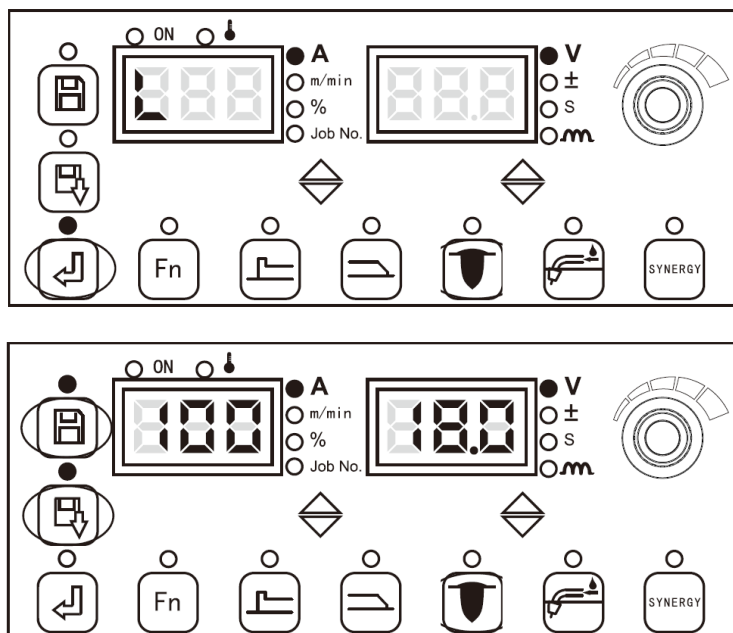

Figure 3-18 Screen for Common lock
1. Select the relevant welding parameters, long press the **Enter** key for 3 seconds, then the left digital tubes will display “L”, the indicators for Store and Invoke will simultaneously be flashing, then go to the screen for Common lock, as shown in Figure 3-18.